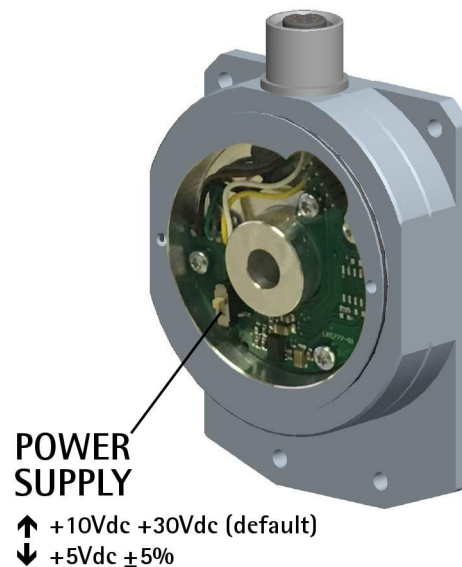

Figure 6
* The power supply voltage level must be set through the POWER SUPPLY DIP switch located inside the enclosure of the converter, see the "4.7 POWER SUPPLY DIP switch (Figure 6)" section on page 25.
4.7 POWER SUPPLY DIP switch (Figure 6)